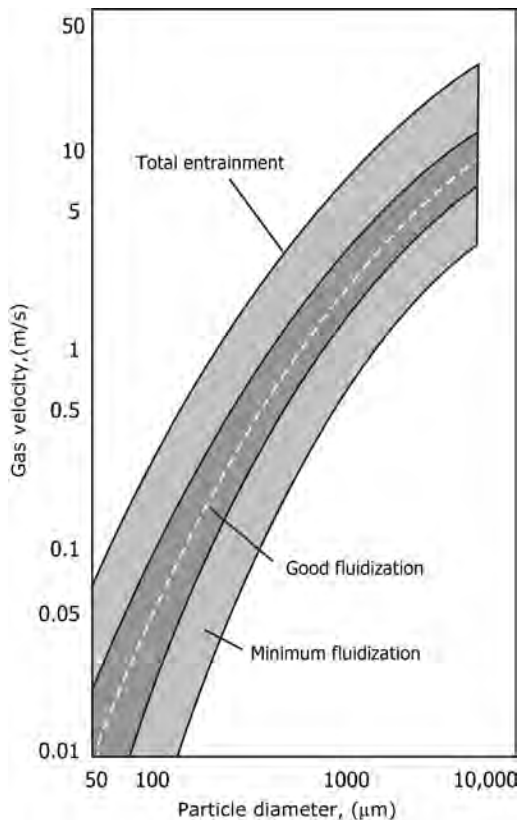

FIGURE 7.9 Particle diameter versus gas velocity, showing minimum fluidization velocity for good fluidization and total carryover bands.
- Figure 7.9 illustrates the range of band for good fluidization.